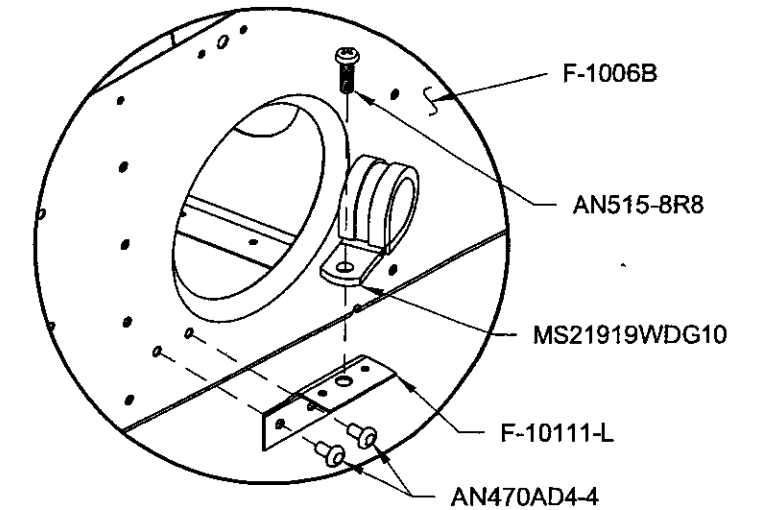

FIGURE 5: ATTACHING THE BRACKET AND CUSHIONED CLAMP
Step 5: Rivet the F-10111-L Angle Bracket to the aft side of the F-1006B Fuselage Bulkhead and attach the remaining hardware as called out in Figure 5.